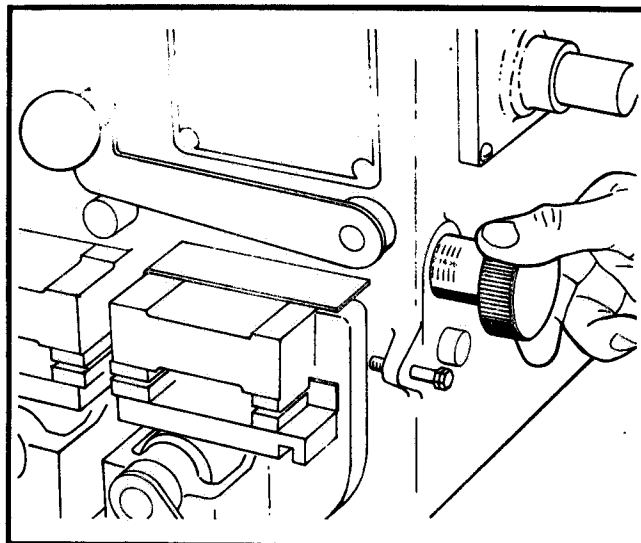

FIG. 5. SETTING JAW PRESSURE.
- (4) Place reset lever in "weld" position.
- (5) Turn jaw pressure selector to correct setting chosen from Control Settings Chart (Fig. 4). Number settings in the chart refer to selector shaft numbers. See Fig. 5.